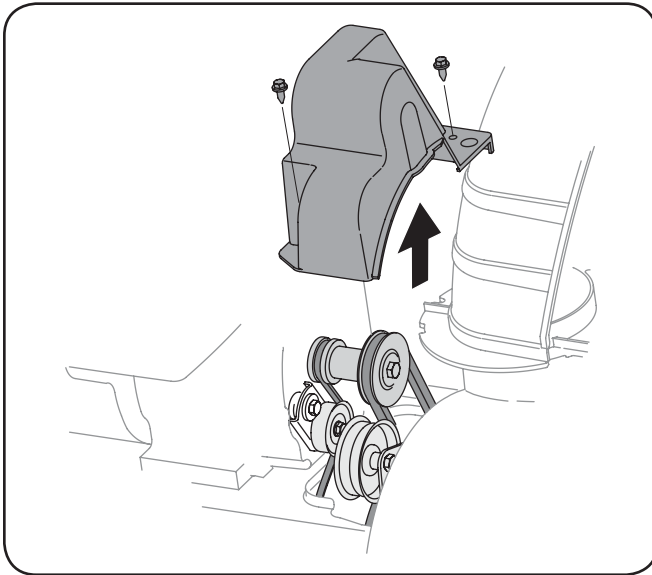

**Fig. 7-1**
2. Remove the plastic belt cover on the front of the engine by removing the two self-tapping screws. See Fig. 7-1.
2. Remove the plastic belt cover on the front of the engine by removing the two self-tapping screws. Refer to Fig. 7-1.